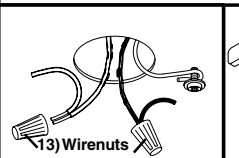

Fig. 10
6. **With the power turned off, connect the bare copper ground wire** from the junction box to the fixture by wrapping it under the head of the green ground screw. and tightening the screw. (If house wiring does not include a ground wire, consult your local electrical code for approved grounding methods). **See Fig. 10.**
7. **Use Wirenuts (13)** to connect black fixture wire to the black power supply wire and white fixture wire to the white power supply wire. **See Fig. 10.**